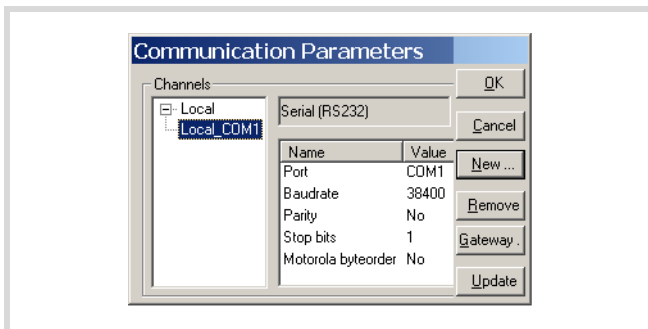

Figure 49: Defining the PC's communication settings
To match them, first adjust the PC's communication settings to the CPU's settings. Use the CPU's default parameters, transferring them as shown in figure 49.
- ▶ Use the remaining settings as shown in figure 49.